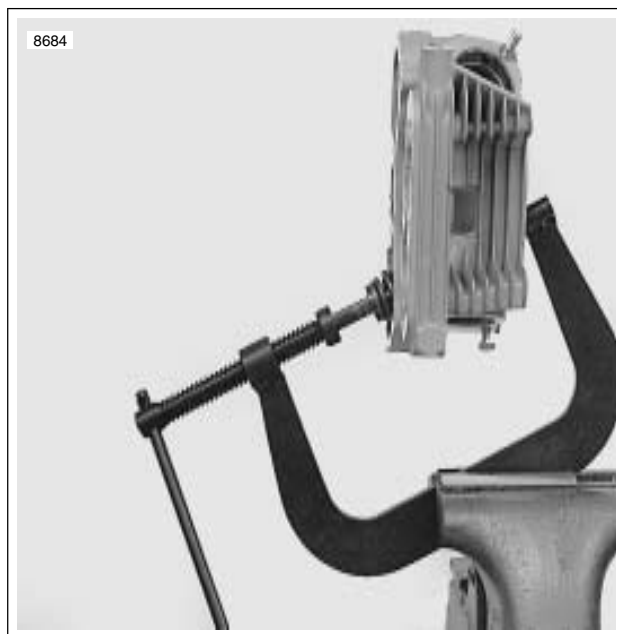

Figure 3-82. Valve Spring Compressor (Part No. HD-34736B)
9. See Figure 3-82. Compress spring with VALVE SPRING COMPRESSOR (Part No. HD-34736B).